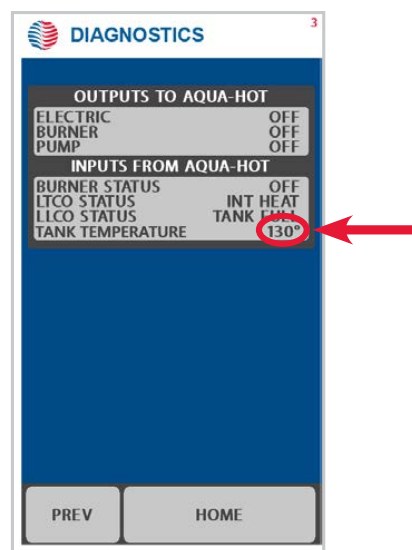

Figure 32
4. Locate the LCD screen or RV control panel. Navigate to the DIAG page. Find INPUTS FROM AQUA-HOT and record the temperature listed by TANK TEMPERATURE (Figure 32). Record this number on the sheet.